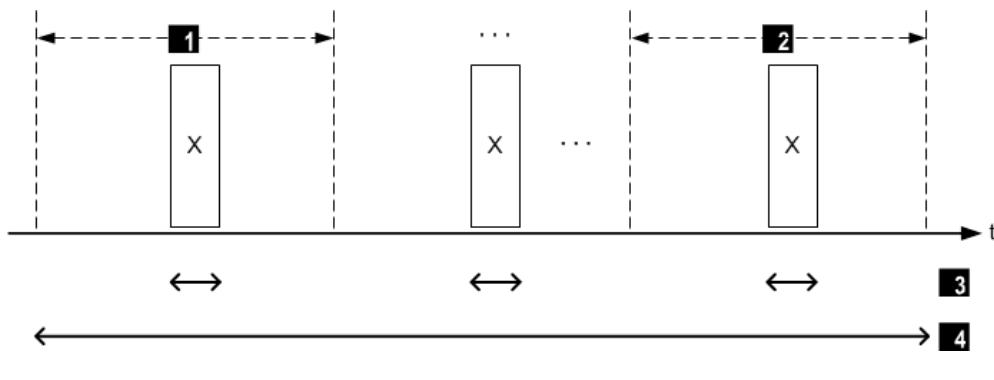

Figure 13: *Program\_CycleDuration and Program\_ExecutionDuration*
*Program\_CycleDuration* indicates the duration of all the processor module cycles needed for a user program cycle; in Figure 13, it corresponds to the large double arrow **4**.
*Program\_ExecutionDuration* is the processing time portion of user program X in all the processor module cycles considered. In Figure 13, *Program\_ExecutionDuration* corresponds to the sum of all small double arrows **3**.